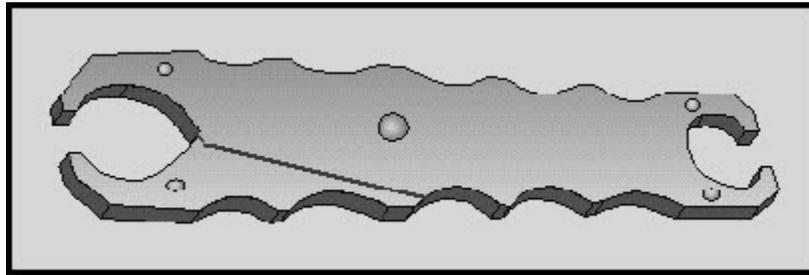

Figure 3-13 Fuse puller
- After first making certain that the circuit is dead, use a fuse puller (figure 3-13) to remove cartridge fuses.